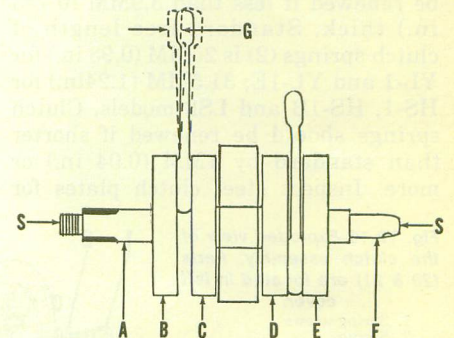

Fig. Y2-15—Refer to text for checking crankshaft for correct assembly or wear.
**CONNECTING RODS AND CRANKSHAFT.** The crankcase halves must be separated to remove the crankshaft. Connecting rods, crankpins, rod bearings and the center main bearings are removed by pressing the crankshaft apart. The crankshaft should be disassembled ONLY if required tools are available to correctly check and align the reassembled crankshaft. If side shake (G—Fig. Y2-15) at piston pin end of connecting rod end exceeds 2MM (0.08 in.), the connecting rod, crankpin and lower bearing should be renewed. Shake (G) should be 0.8-1.0MM (0.032-0.039 in.). Side clearance of connecting rod between the crankshaft counter weights can be measured with a feeler gage. Side clearance should be 0.1-0.3MM
(0.0039-0.012 in.). With crankshaft supported between lathe centers (S—Fig. Y2-15), maximum eccentricity when measured with dial indicator at points (A,B,C,D,E, & F) should not exceed 0.02MM (0.0008 in.).